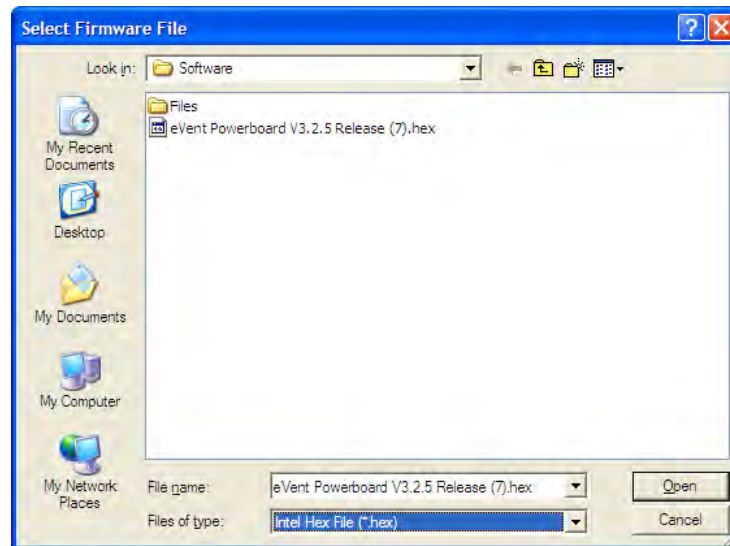

Figure 12-7
- Attach the other end of the software download cable to the vacant connector on the Power board immediately adjacent to the Soft Ware Flash EPROM shown in Figure 12-7.
- At the firmware selection stage, change file type to **.hex** and select file in the form eVent PowerboardVX.X.X.hex as shown in Figure 12-7 below.